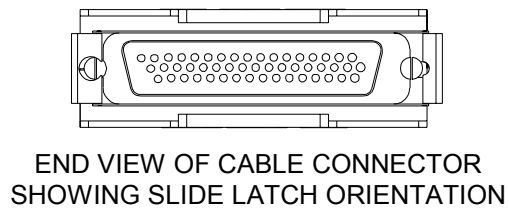

FIGURE 4. Slide Latch Assembly
9. Install the slide latch hardware on the cable connector as shown in Figure 4. Be sure the slide latch is oriented as shown in the end view of the cable connector in the illustration.